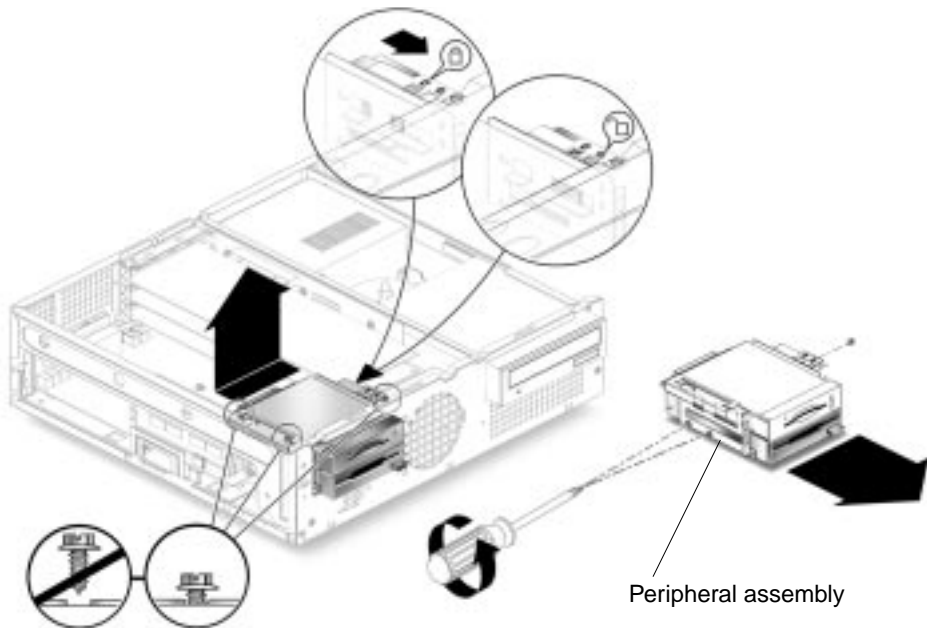

FIGURE 7-1 Removing and Replacing the Diskette Drive
- a. **Place the peripheral assembly back in position, aligning the three holes in the peripheral assembly with the three securing screws on the chassis (see FIGURE 7-1 on page 7-2).**
- b. **Using a No. 2 Phillips screwdriver, loosen (but do not remove) the three screws securing the peripheral assembly to the chassis (see FIGURE 7-1 on page 7-2).**
5. **Using a No. 2 Phillips screwdriver, loosen (but do not remove) the three screws securing the peripheral assembly to the chassis (FIGURE 7-1).**
1. **Position the diskette drive into the peripheral assembly (FIGURE 7-1).**
5. Using a No. 2 Phillips screwdriver, loosen (but do not remove) the three screws securing the peripheral assembly to the chassis (FIGURE 7-1).
3. Position the peripheral assembly into the chassis, aligning the three holes on the assembly with the three screws on the chassis (FIGURE 7-1).